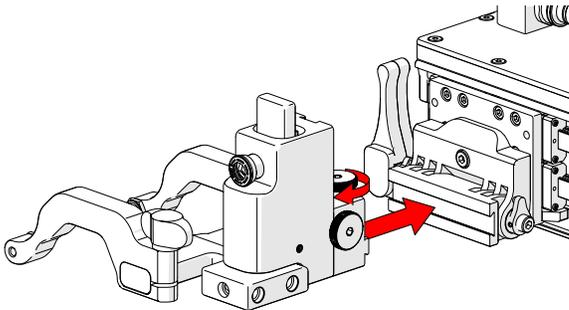

Fig. 44 - Mount probe holder to carrier
1. Loosen the probe holder adjustment knob (Fig. 44) and mount the heavy duty vertical probe holder's dovetail jaw to the carrier.